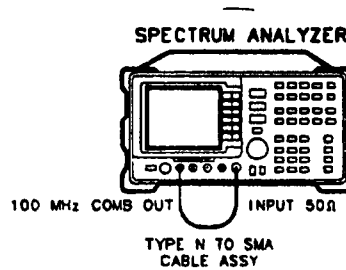

Figure 2-19. CAL MXR Adjustment Setup
2. Connect the 100 MHz COMB OUT to INPUT 50Ω using the CAL YTF cable (Type N to SMA cable). Refer to Figure 2-19.